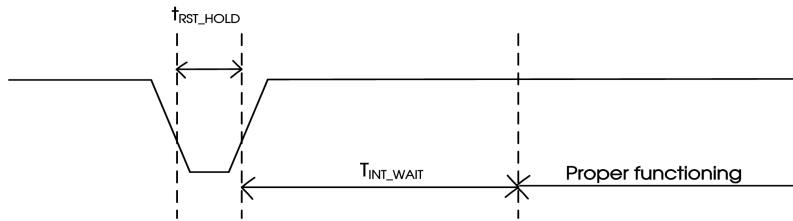
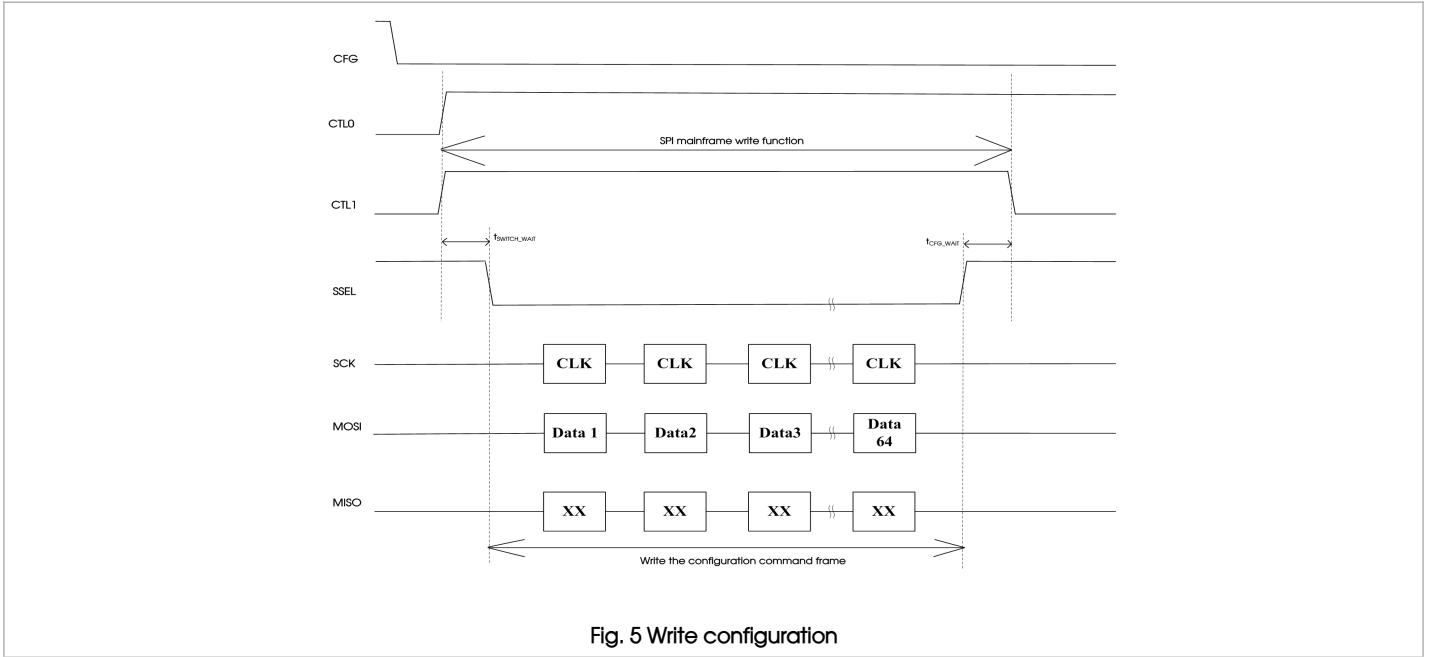

Fig. 1 Reset timing diagram
Fig. 5 Write configuration
Note: (1) Timing diagram with reference to Figure 1 ~ Figure 5
(2) n is the number of UART frame interval characters actually configured by the user.